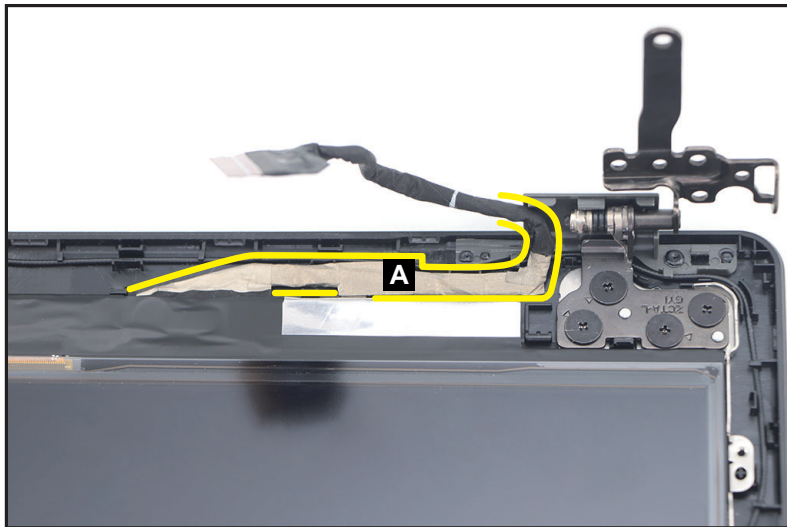

Figure 1-46. LCD Panel Removal
1. Unroute and release the LCD cable (A) from the LCD hinge and the cable guides on the LCD cover as shown in Figure 1-46.